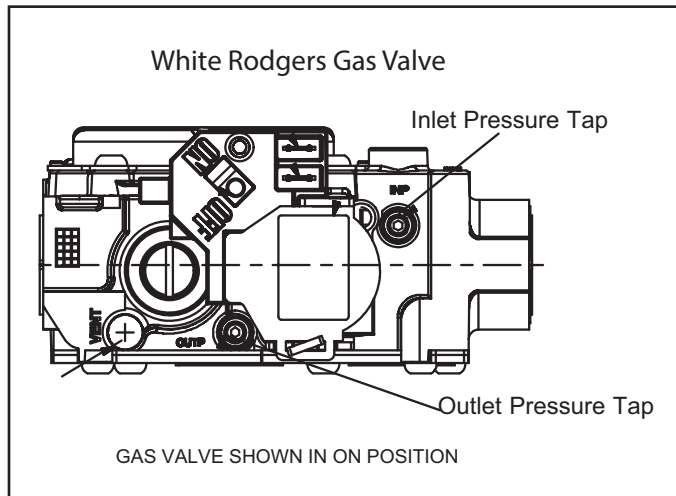
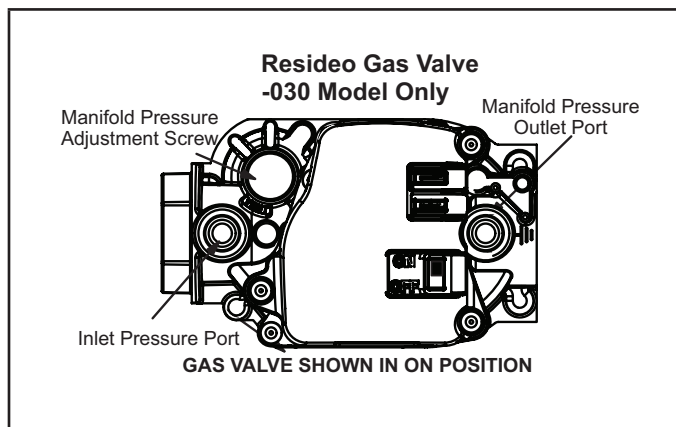

FIGURE 23
FIGURE 24
- 6 - Move gas valve switch to OFF position. Do not force. See FIGURE 23 and FIGURE 24.
- 8 - Move gas valve switch to ON position. Do not force. See FIGURE 23 and FIGURE 24.
- 4 - Move gas valve switch to OFF position. Do not force. See FIGURE 23 and FIGURE 24.
- 4 - If necessary, make adjustments. FIGURE 23 and FIGURE 24 show location of adjustment screw.